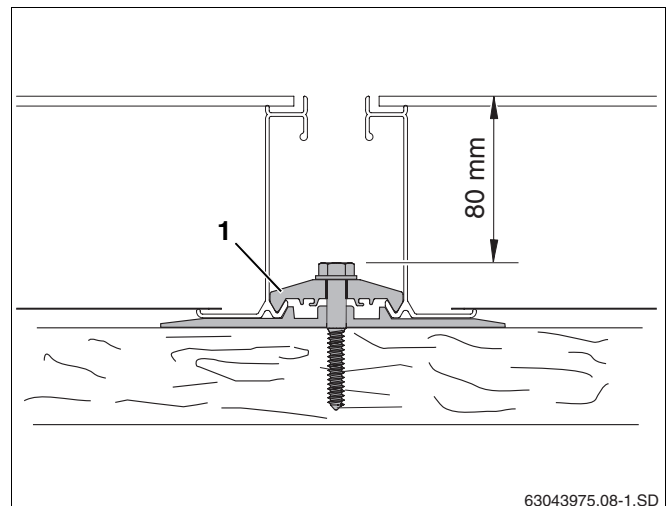

Fig. 29 Screwing in double-sided clamp
- ▶ Tighten the screw on the double-sided clamp (Fig. 29, **Item 1**). You will need an extension at least 80 mm in length.